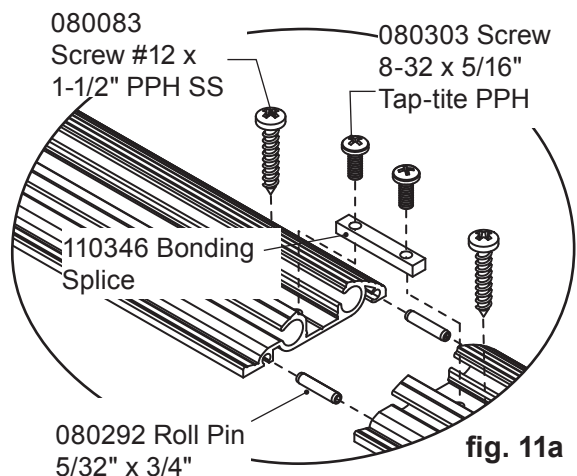

fig. 11a
6.2 Install the track bottom. (fig. 11a)
6.3 Install the splice. (fig. 11a)